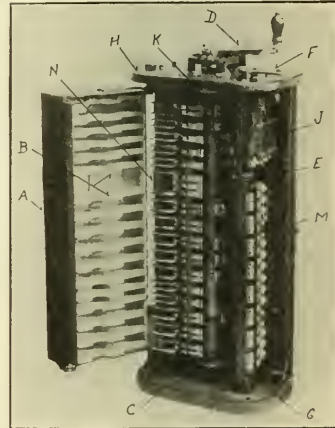

FIG. 1.—LATEST TYPE OF K. CON. TROLLER.
are the same, and so we will describe one of the latest design shown by Fig. 1 known as the K 35 controller. This view shows the inside of the controller, with the complete arc deflector (A) opened and swung back. In normal position for operation of the controller this arc deflector is closed, so that each division plate or arc shield (B) will occupy the space between the contact fingers (C). The whole front of the controller box is then covered over by a wooden cover lined with asbestos. In this, the latest type of K controllers, the operating handle (D) is connected directly to the shaft, to which is fastened the main cylinder (E), dispensing with gears as on some of the older styles, so that the controller operates easily. The reverser handle (F) which operates the reverser drum (G) is interlocked with the power operating handle (D), so that the latter can not be moved unless the reverse handle is fully set in either forward or reverse position; also in case the power handle is not in the "off" position the reverse handle can not be moved. Directly below the controller cap (H) is the
Referring to Fig. 1, when the arc deflector (A) is closed into place there is an arc shield on top and bottom of each finger or group of fingers. For each finger or group there is a blowout coil (N). These blowout coils are simply turns of wire, through which flows the motor current, wound around steel cores, which are fastened to the finger basis. Steel plates are embedded in each arc shield (B), which distributes the magnetic flux through the arc shutters (the space between the arc shields) parallel to the shaft and at right angles to the arcs formed. The scheme used in the older types of K controllers is one long blowout coil for all the fingers, which means a much weaker field for disrupting the arc with not nearly as good operation.